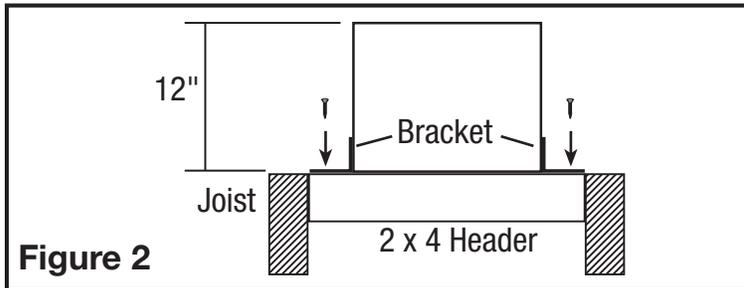

Figure 2
- 2b. **Mounting to a Joist:** Install two - 2 x 4 headers (not included) between the joists. Position the fan housing on top of the headers and secure the mounting brackets with screws (not included) to the header (Figure 2).